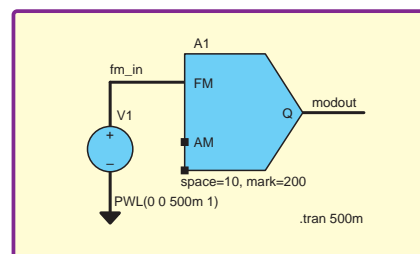
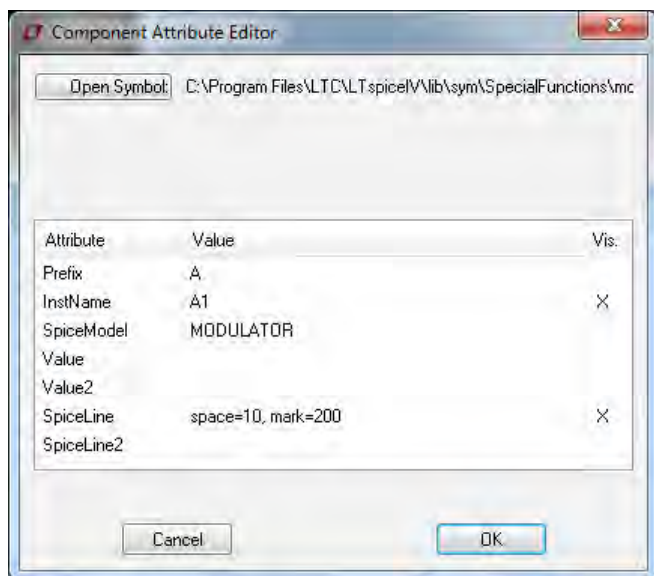
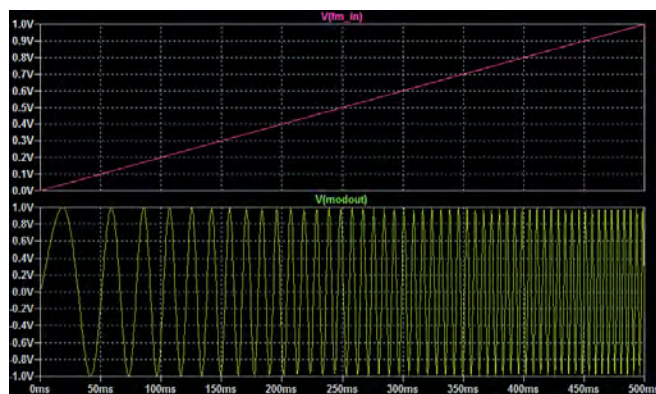

Fig.3. LTSpice circuit to demonstrate FM action of modulator
Fig.4. The Component Attribute Editor with modulator parameters added
Fig.5. Results from simulating the circuit in Fig.3
The circuit in Fig.3 shows the modulator wired to demonstrate the frequency modulation (FM) function. In order for the modulator to work it is necessary to define the value of a couple of parameters (space and mark). Initially these will not be set and will not appear on the schematic. As with basic components, where, for example, you can set the resistance (parameter) of a resistor by entering data in the named box, we proceed by right-clicking on the symbol. However, unlike a resistor, we do not get a device-specific dialogue; instead we are presented with the general purpose Component Attribute Editor, as shown in Fig.4.
The two parameters for the Modulator are 'Space' and 'Mark'. These set the lower and upper frequencies produced by a 0V and 1V input respectively on FM. The output frequency scales linearly between the Space and Mark frequencies for FM input voltages between 0V and 1V. The circuit in Fig.3 drives the modulator's FM input from a basic voltage source with a piecewise-linear configuration, which ramps the FM voltage from 0V to 1V over 500ms. For the circuit in Fig.3, use of Space and Mark values of 10 and 200 means that the modulator output frequency steadily increases from 10Hz to 200Hz over a 500ms time period. The AM input is disconnected, which causes the modulator to default to a peak output voltage of 1V. The results of simulating the circuit in Fig.3 are shown in Fig.5.